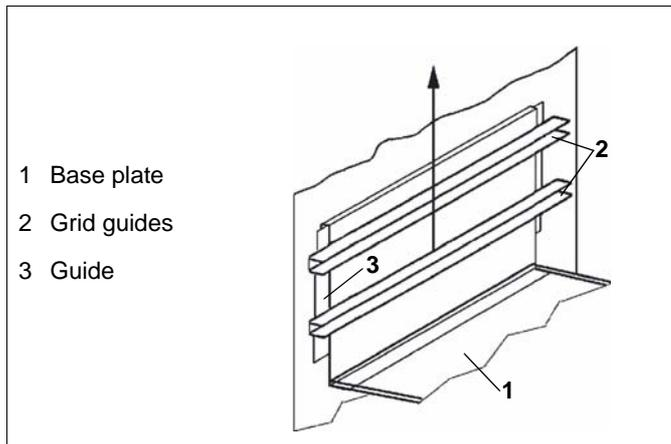

Fig. 13 Grid guide
- ⇒ To clean the oven, take out the grid guides (2 / Fig. 13) and clean them.
- ⇒ Remove the base plate (1 / Fig. 13).
- ⇒ Lift up the grid guide (2 / Fig. 13) and lift out of the grid (3 / Fig. 13).
- ⇒ Remove the base plate grid guide (1 / Fig. 13).